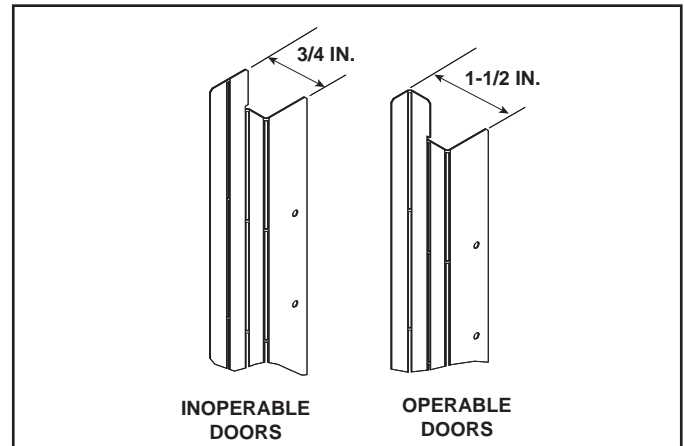

Figure 13.2 Left and Right Side Finishing Template Bends
2. Bend the left and right side templates for the appropriate door type using Figure 13.2 as a reference.